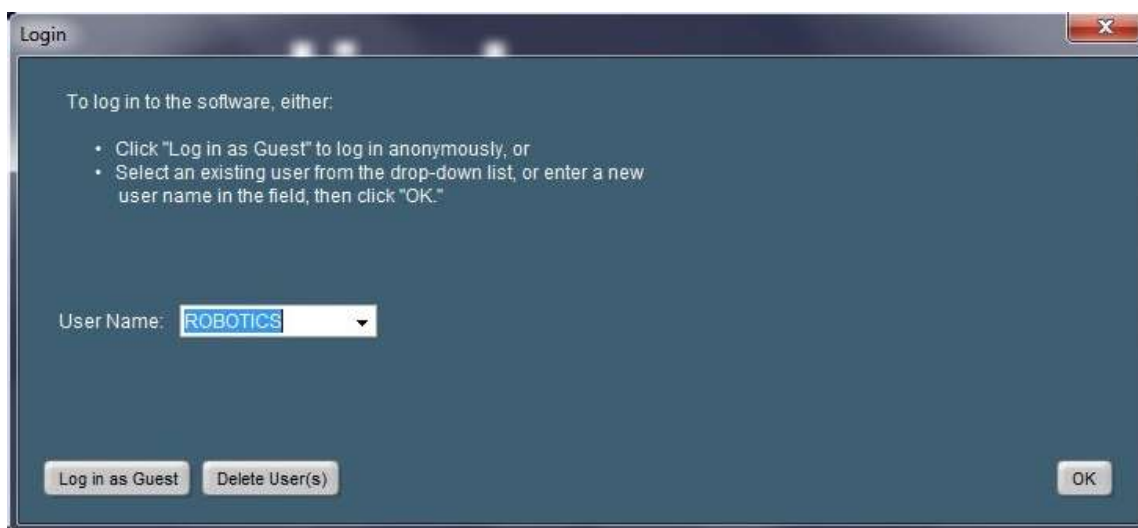

Figure 9 HID Real-Time PCR Analysis Software login screen.
4. Login as **ROBOTICS** and click **OK** (Figure 9).